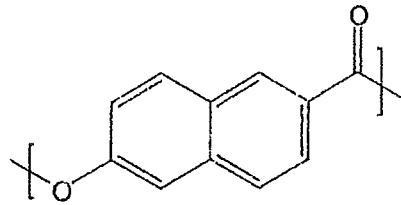

Figure 3: Structure of liquid crystal polymer
- (b) The following liquid crystalline polymer (Figure 3) is very intractable to processing due to its high melting point. Suggest two methods to overcome this problem.